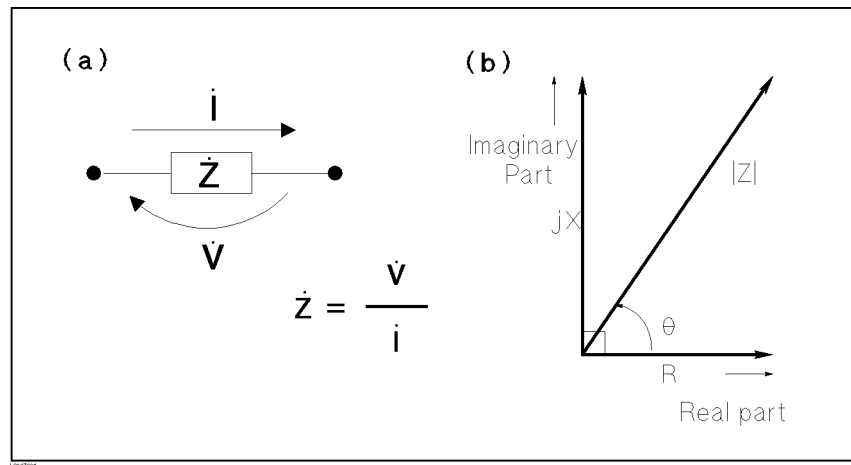

Figure 7-1. Definition of Impedance
Figure 7-1, (A) shows the complex impedance definitions and (B) shows the vector representation of complex impedance. Impedance, $\hat{Z}$ is the total opposition that a circuit or device offers to the flow of alternating current at a given frequency. $\hat{Z}$ contains a real and an imaginary part, and it is expressed in rectangular form as Resistance and Reactance, or in polar form as magnitude of Impedance and Phase as follows.